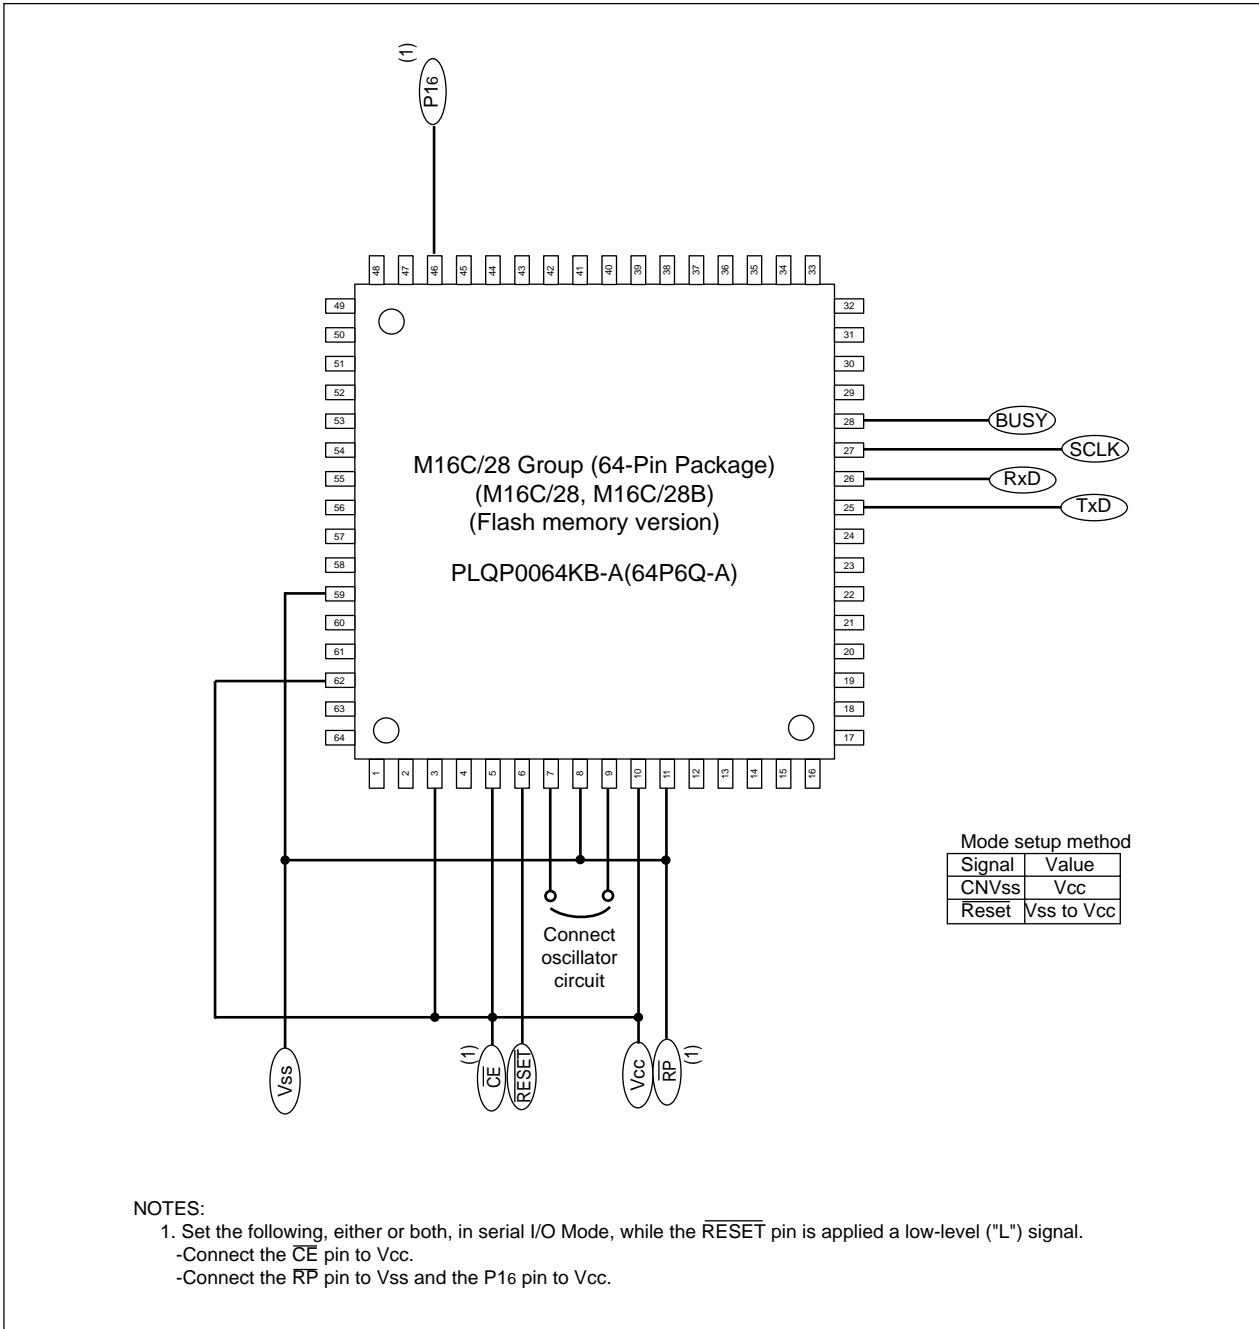

Figure 18.16 Pin Connections for Serial I/O Mode (1)
**Table 18.8** lists pin description (flash memory standard serial input/output mode). **Figures 18.16** and **18.17** show pin connections for standard serial input/output mode.